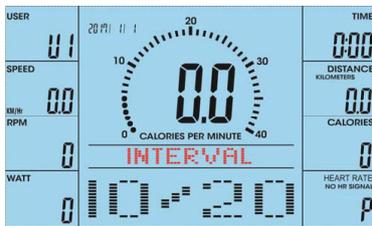

FIGURE 25
(1) Choose the INTERVAL 10/20 / INTERVAL 20/10 / INTERVAL MAX programme with the UP/DOWN buttons (fig. 25 to 27). Confirm with ENTER.